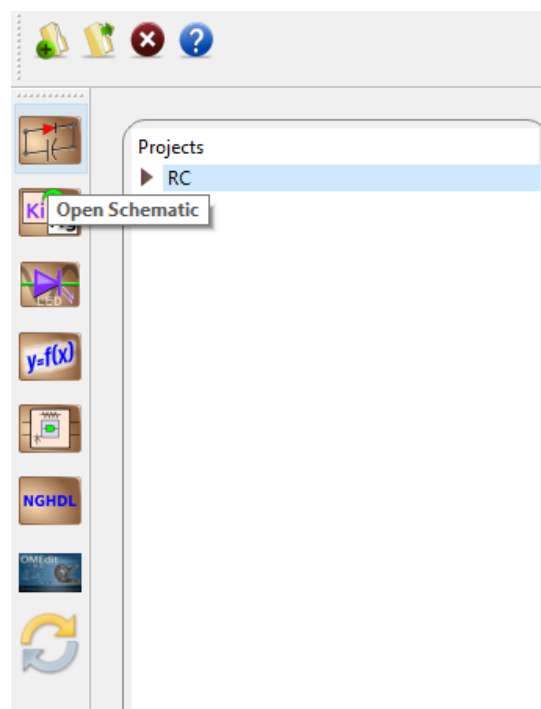
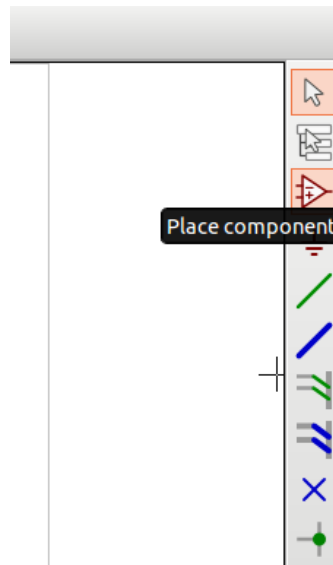

Figure 11.2: Open Schematic Editor
Figure 11.3: Place Component Icon
- Creating the Schematic: To create the schematic, click the very first icon of the left toolbar as shown in the Fig. 11.2. This will open KiCad Eeschema.
To create a schematic in KiCad, we need to place the required components. Fig. 11.3 shows the icon on the right toolbar which opens the component library.
- **Creating Schematic:** To create the schematic, click the very first icon of the left toolbar as shown in the Fig. 11.2. This will open KiCad Eeschema.
After the KiCad window is opened, to create a schematic we need to place the required components. Fig. 11.3 shows the icon on the right toolbar which opens the component library.
- **Creating Schematic:** To create the schematic, click the very first icon of the left toolbar as shown in the Fig. 11.2. This will open KiCad Eeschema. After the KiCad window is opened, to create a schematic we need to place the required components. Fig. 11.3 shows the icon on the right toolbar which opens the component library. After all the required components of the inverting amplifier circuit are placed,